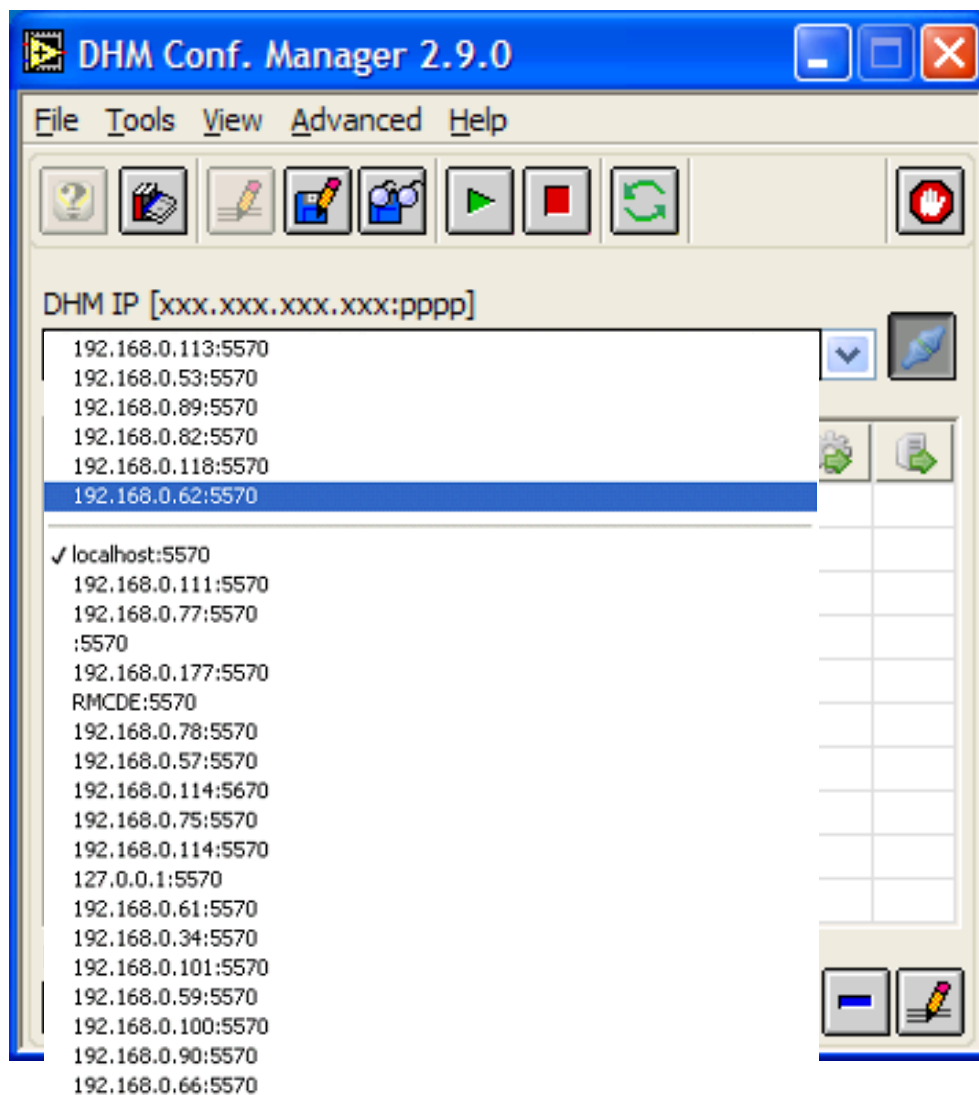

Figure 16: DHM server list
- When trying to connect to a DHM Background Server that is not running at the moment (so it may appear in the list below the horizontal line when it was active in the past, see Figure 16), the following error dialog pops-up: